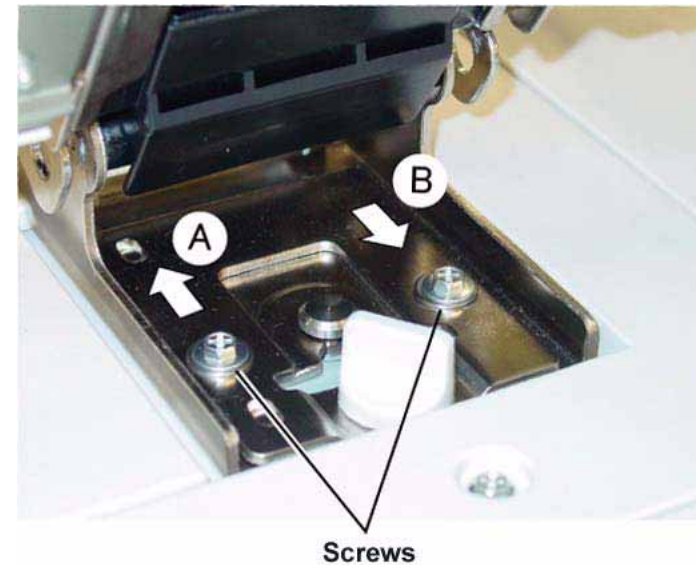

Figure 2 Adjusting the position of the DADF
2. Adjust the position of the DADF by moving it in direction A or B. Figure 2
- b. With a 5.5 mm socket, loosen the (2) screws so that the plate moves freely.
- d. Tighten the (2) screws and reinstall the thumbscrew.